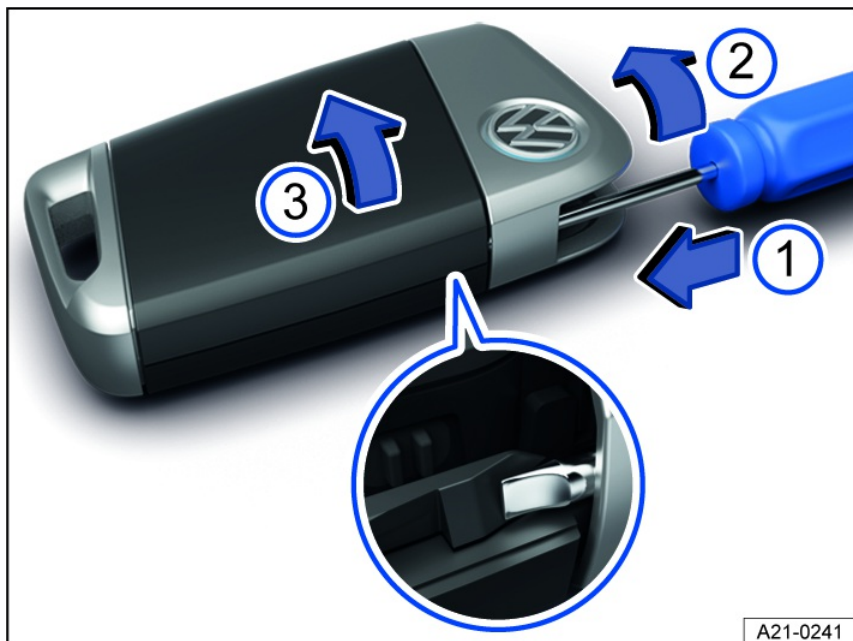

Fig. 50 Remote control vehicle key: opening the battery compartment cover.
2. Slide the blade of the flat-bladed screwdriver in the direction of the arrow approximately 1 cm into the outer guide on the emergency key in the vehicle key *fig. 50*.
3. Turn the flat-bladed screwdriver clockwise until the cover pops up *fig. 50*.
4. Push the cover in the direction of the arrow and remove it *fig. 50*.
7. Press the cover out of the housing *fig. 50*, ⇒ ⌚.